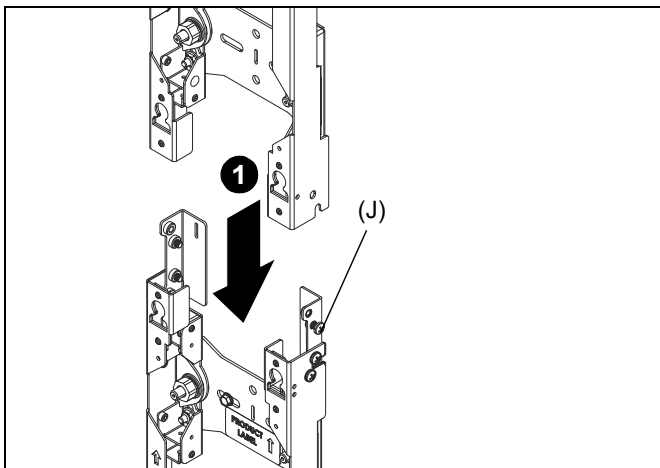

Figure 12
1. Lower additional mounts (A) onto installed mounts (A), placing grooves at bottom of uprights over partially installed screws (J) on connector kit. (See Figure 12)